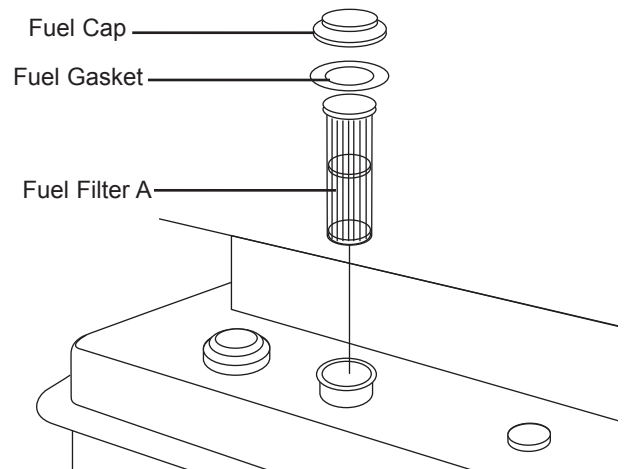

Figure 13: Fuel Filter A in Tank
- Remove fuel cap (see Figure 13).